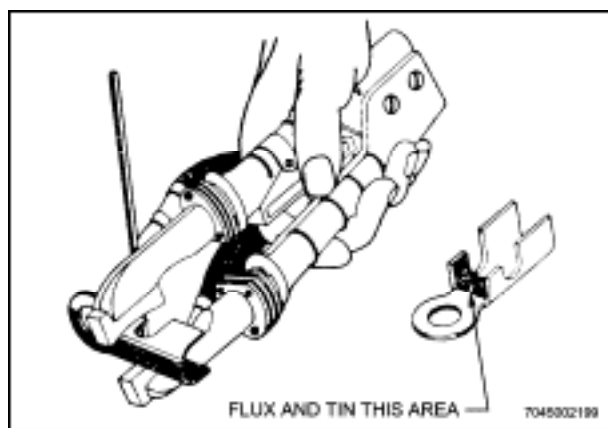

Figure 16-10 Resistance Tinning of Terminal
16. Tin only section of thermocouple terminals inside wire grip as shown in Figure 16-10. Terminals for silver soldering should not be plated.
- b. Using a torch or the resistance heating pliers, melt a thin coat of silver solder onto inside of wire grip. See Figure 16-10 for use of resistance heating pliers in this operation.